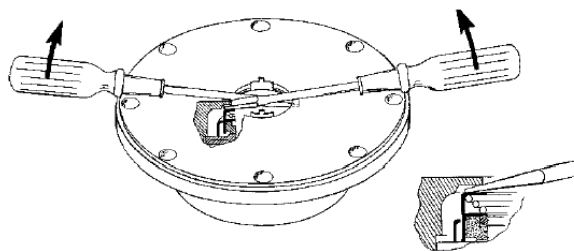

Figure 6
3. Remove the inboard bearing cover capscrews (28) and slide the inboard bearing cover (27A) and gasket (26) off the shaft. Discard the bearing cover gasket.
4. Remove the outboard bearing cover capscrews (28) and slide the outboard bearing cover (27A) and gasket (26) off the shaft. Discard the bearing cover gasket.
6. Remove the head capscrews (21) and carefully pry the head (20) away from the cylinder. Jack screw holes are provided if needed.
7. Slide the head off the shaft. The head O-ring (72), bearing (24), and mechanical seal (153) will come off with the head assembly. Remove and discard the head O-ring.
- a. Pull the bearing (24) from the housing in the head.
- b. To remove the **mechanical seal** (153), use two screwdrivers to gently push the backside of the seal jacket to push the seal from the head (see Figure 6). Use care when placing the screwdrivers to prevent damage to the seal faces. Remove and discard mechanical seal O-rings.